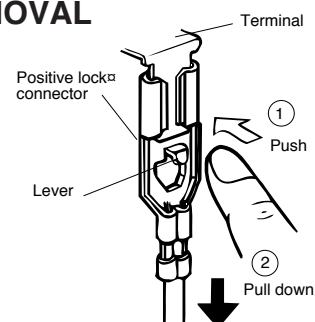

Figure C-2. Positive lock® connector
4. Cut the four (4) bridges holding the turntable motor cover to the base plate with cutting pliers as shown in Figure C-2(a).
2. Re-install turntable motor by locating shaft onto turntable motor shaft to the turntable motor angle with the one (1) screw.
5. Insert the two (2) tabs of the turntable motor cover into the slits of the base plate as shown in Figure C-2(b).
6. Re-install the turntable motor cover to the base plate with the screw (LX-EZA045WRE0) as shown in Figure C-2(b).